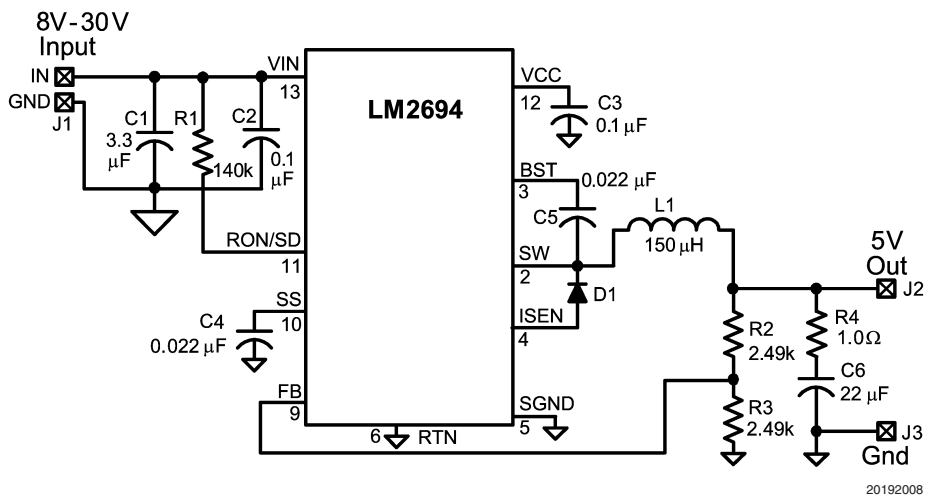

FIGURE 4. Lowest Cost Configuration
The LM2694 requires a minimum of 25 mVp-p ripple at the FB pin, in phase with the switching waveform at the SW pin, for proper operation. In the simplest configuration (Figure 4) that ripple is derived from the ripple at the output, generated by the inductor's ripple current flowing through R4. That ripple voltage is attenuated by the feedback resistors, requiring that the ripple amplitude at OUT be higher than the minimum of 25 mVp-p by the gain factor. Options for reducing the output ripple are discussed below, and the results are shown in the graph of Figure 8.
C) **Lowest Cost Configuration:** This configuration is the same as option B above, but without C9. Since 25 mVp-p are required at the FB pin, R4 is chosen to generate 50 mV at OUT, knowing that the minimum ripple current in this circuit is 60 mA-p-p at minimum V_{IN} . To allow for tolerances, 1.0 Ω is used for R4. The resulting ripple at OUT ranges from ≈ 60 mVp-p to ≈ 100 mVp-p over the input voltage range. If the application can tolerate this ripple level, this is the most economical solution. The circuit is shown in Figure 4. An alternative to this circuit is to eliminate R4 if C6 has sufficient ESR.